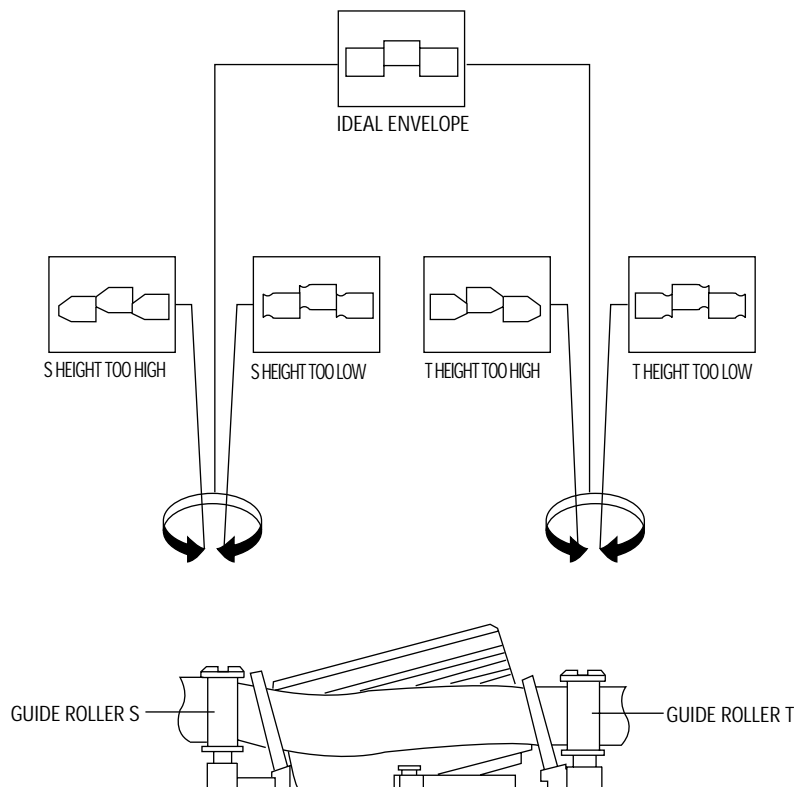

Fig. 2-8 Guide Roller S, T Height Adjustment
8) Turn the guide roller heads with a flat head (  ) driver to obtain a flat video RF envelope as shown in Fig. 2-8.